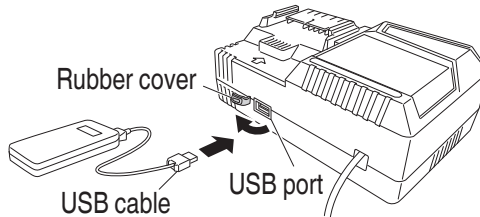

Fig. 16
(2) Connect the USB cable. (**Fig. 16**)